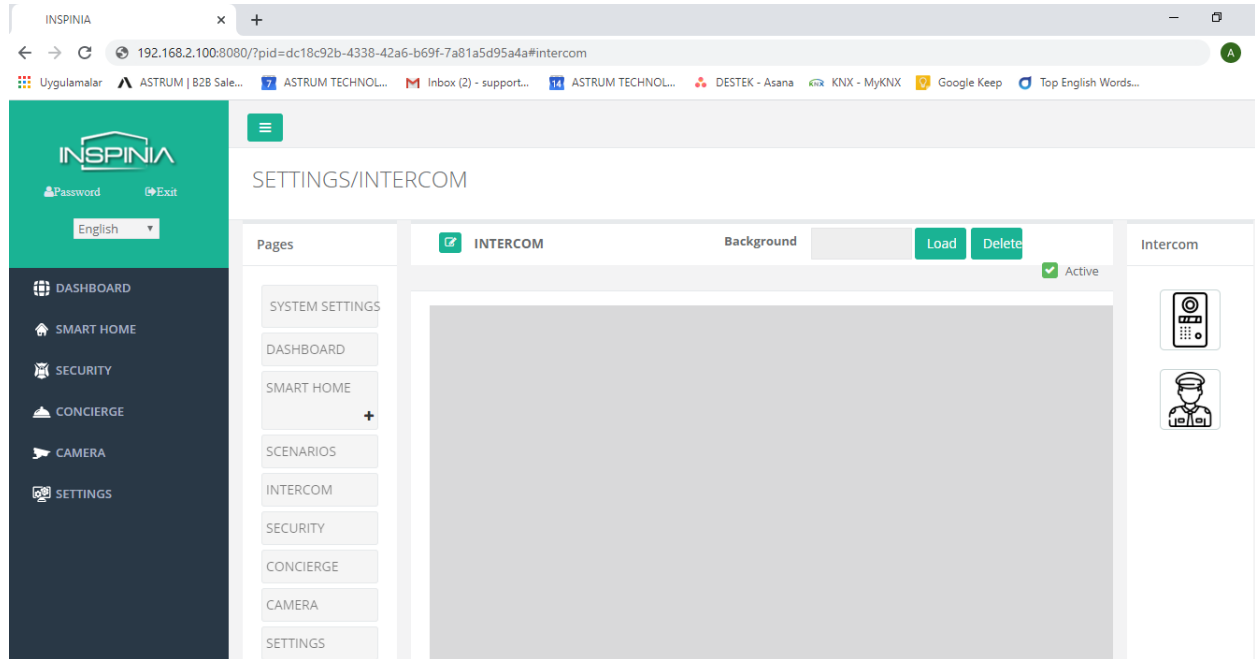

Figure 1.3
- Click the intercom tab in the settings section for configuration.(Figure 1.3)